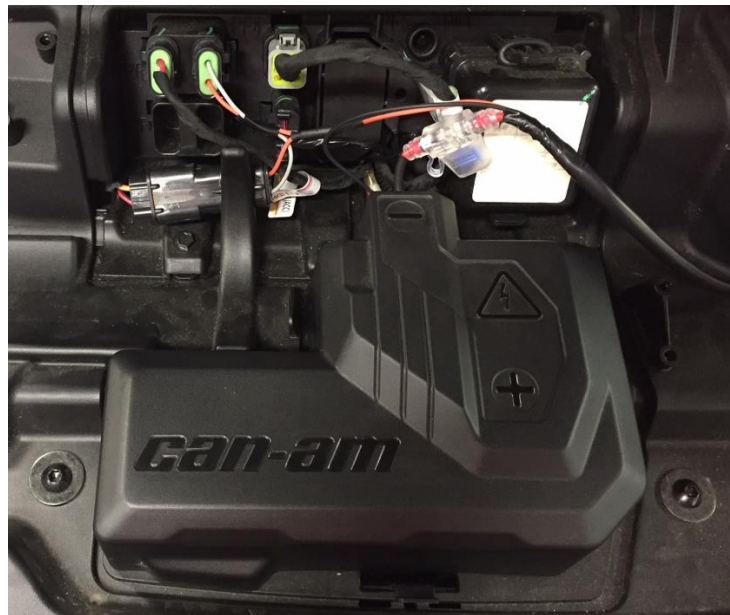

Figure 18: Reinstall the battery cover.
13. Reinstall the battery cover. See Figure 18.